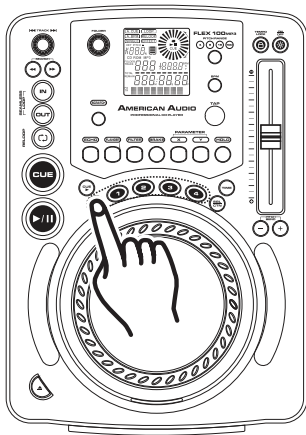
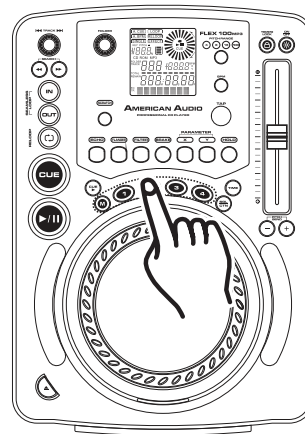

Figure 16
Figure 17
- 1) Create a Cue Point by one of the two means listed on page 18. Press the **MEMORY BUTTON (17)**, as in Figure 16. The red Memory Cue LED will glow indicating the store memory function has been activated. You may now press any one of the four **BANK BUTTONS (13)** to store your cue point into memory (Figure 17). After pressing one of the **BANK BUTTONS (13)**, the corresponding Bank Button LED will flash briefly. The LED of the **BANK BUTTON (13)** will remain lit indicating a cue point is stored in memory. The red Memory LED will turn off.